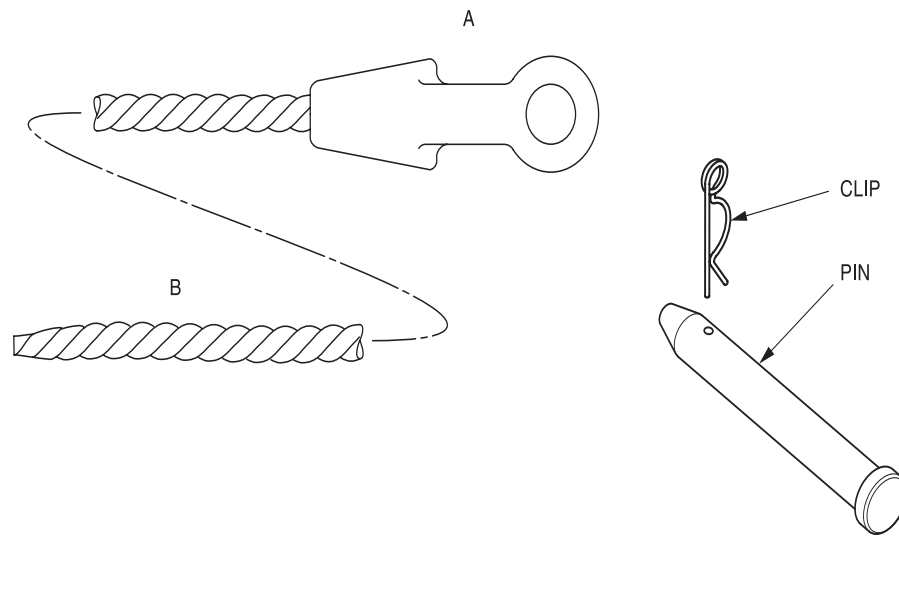

Figure 3. 83 Wire Rope Ends
- 3.18.1.2 TIRFOR MAXIFLEX wire ropes have a red strand, which is visible on new rope. One end of the wire rope has an end fitting (Figure 3. 83. (A)), the other end of the wire rope is fused and tapered (Figure 3. 83. (B)).